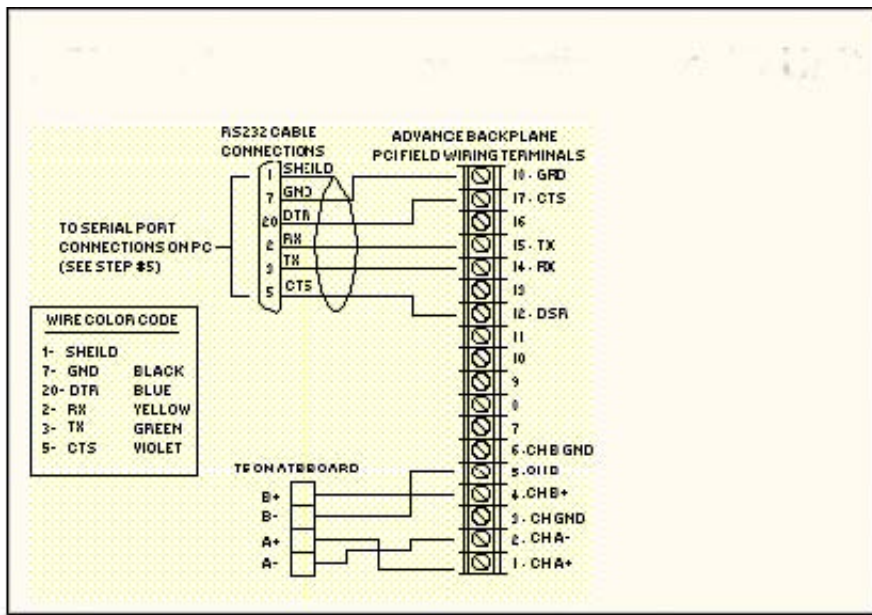

Figure 6. PCI Field Wiring Connection in Electronic Enclosure
If you are using a slot in the Analyzer or I/O unit that was previously used for a Data Hiway device, the connection between the field terminals and the Data Hiway should already be in place however; verify the wiring is in accordance with Figures 6 or 7 and add or modify wiring as required before making connections to PCI.
2. Referring to Figure 6. Field Wiring Connections in Electronics Enclosure, wire the jumper connections from T5 to the PCI slot, field-wiring terminals 1 through 6. Route these wires away from nearby power wires. You must use 22 AWG or larger wire for the jumper connections,